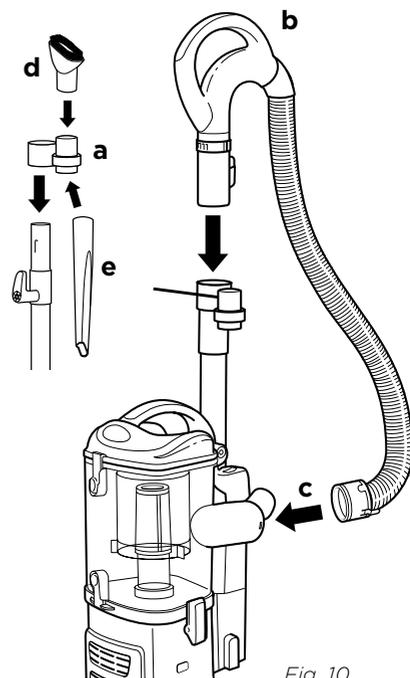

Fig. 10
- 4 Slide the accessory holder **(a)** positioned opposite the upper cord wrap, over the extension wand. Align the tab with the groove and push down. **(Fig. 10)**
- 5 Push the handle **(b)** onto the top of the extension wand until you hear it click into place. **(Fig. 10)**
- 6 Insert the end of the stretch hose **(c)** into the connector on the back of the Lift-Away canister. **(Fig. 10)**
- 7 Store the dusting brush **(d)** and the crevice tool **(e)** on the mounts of the accessory holder. **(Fig. 10)**